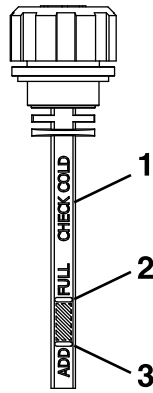

Figure 52
6. Remove the cap again and check the level of the oil on the dipstick. See Figure 52 for oil levels.